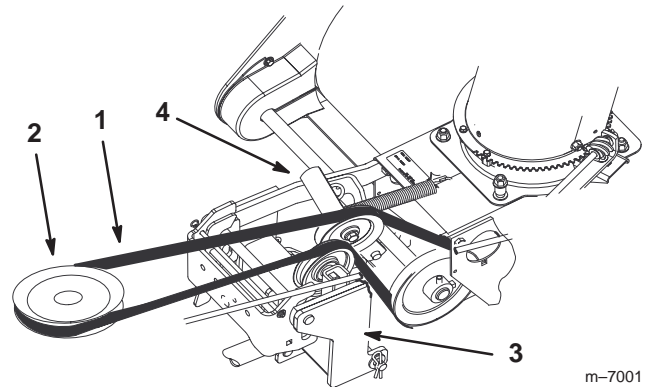

Figure 23
- Route the belt around the clutch pulley and the snowthrower pulleys (fig. 23).